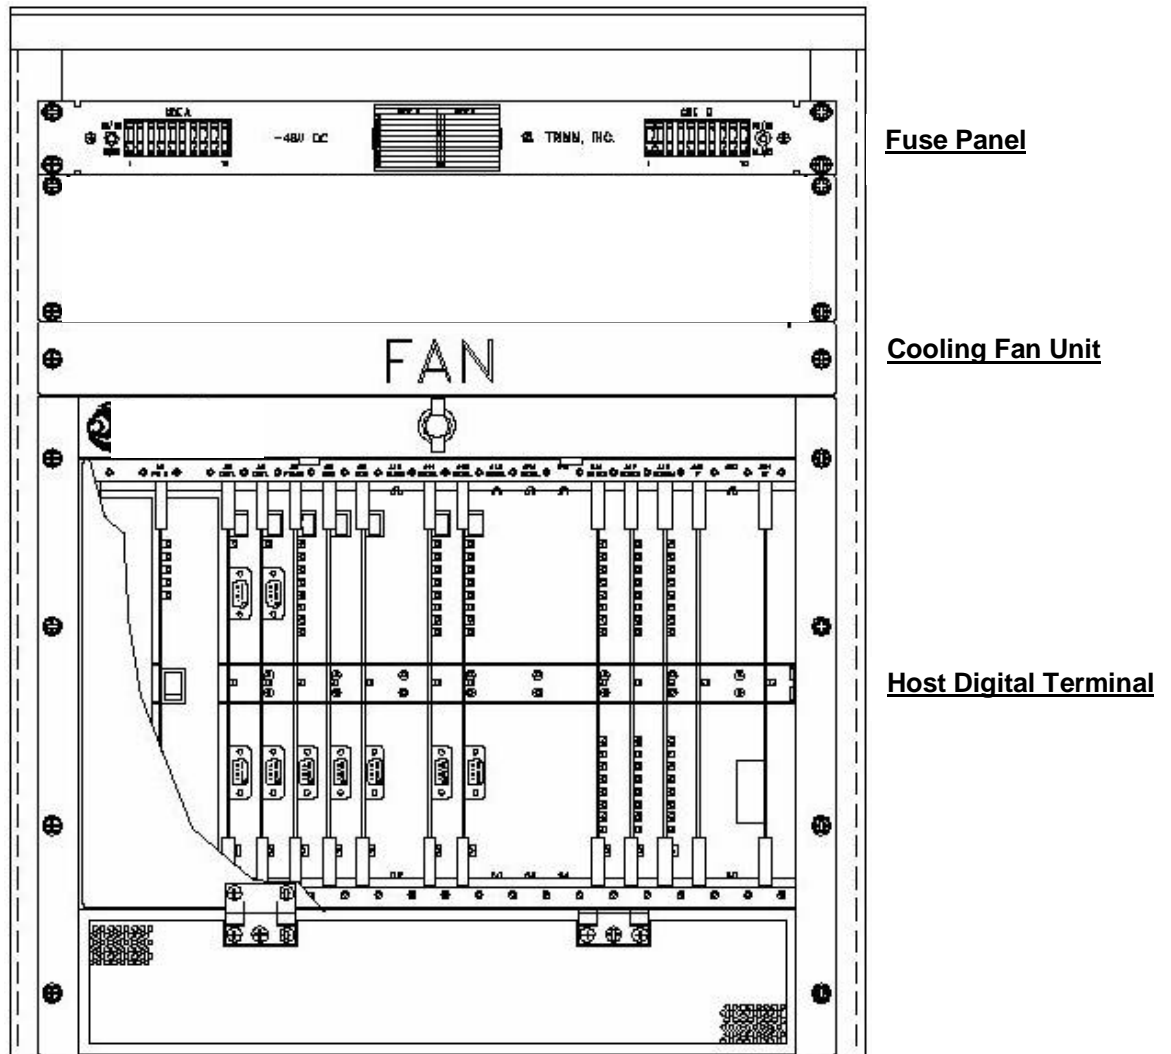

Figure 1 – Rack Assembly
Following the order outlined here facilitates mechanical installation. Install the Fuse Panel (FP), Cooling Fan Unit (CFU), and Host Digital Terminal (HDT), from top to bottom in the rack. Figure 1 shows the arrangement of the rack assembly.
3.1.1 Fuse Panel (FP)